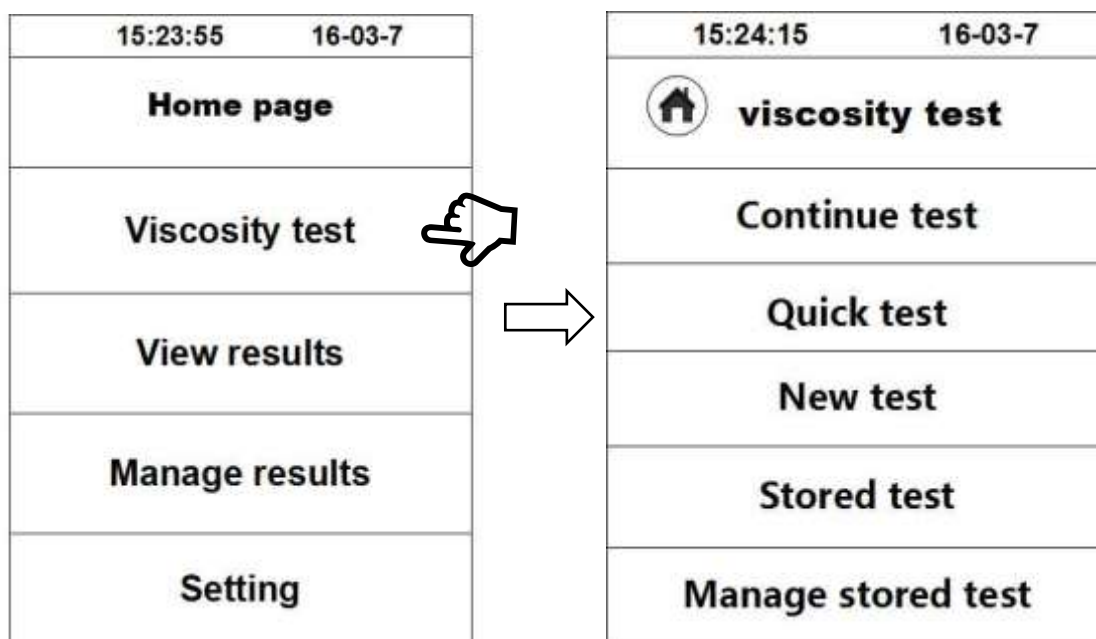

Fig. 18
1.1 Click **“Viscosity test”** to enter the interface of viscosity test (Fig. 18) which has 5 options: